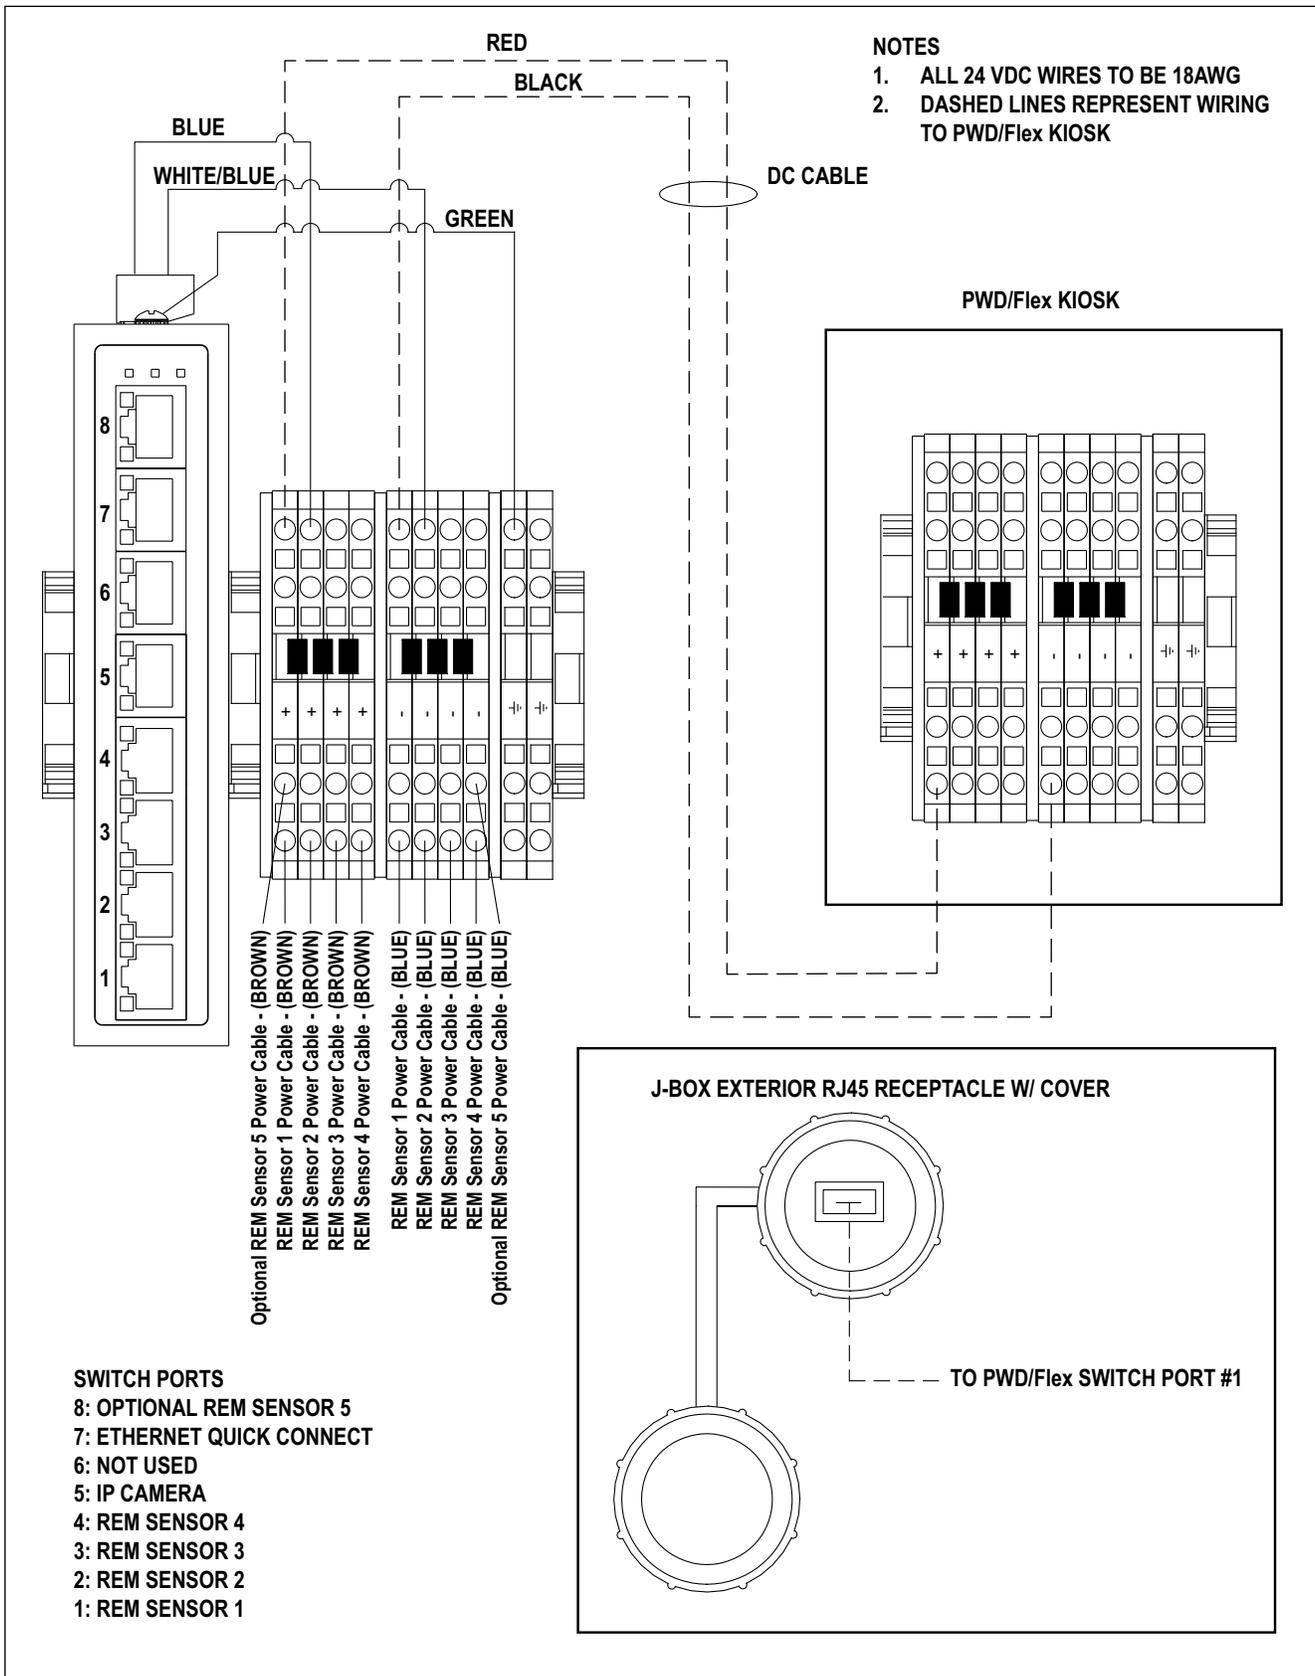

Figure 5-4. J-Box Wiring
- Connect remote IFM sensor ethernet cables (green) to the j-box ethernet ports (Figure 5-4 on page 26).
- Wire the remote IFM sensor power cables to the j-box terminal block (Figure 5-4 on page 26).
3. Wire j-box according to Figure 5-4 on page 26.